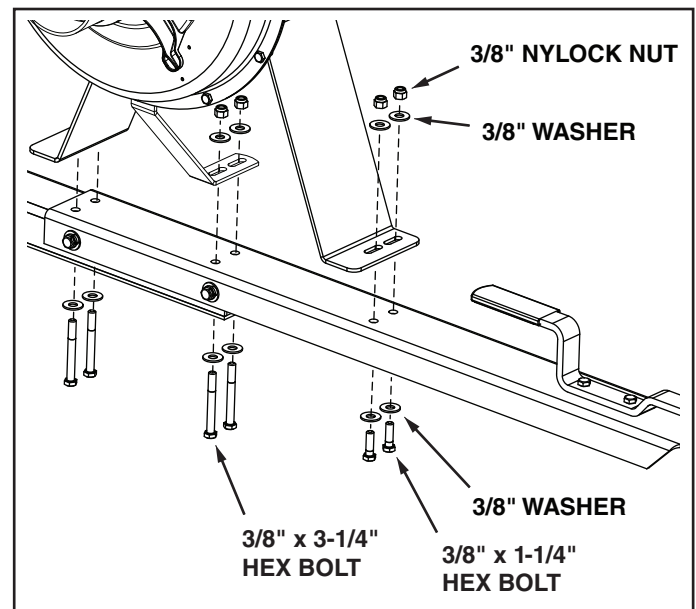

FIGURE 7
10. Attach the engine base assembly to the tongue using four 3/8" x 3-1/4" hex bolts, two 3/8" x 1-1/4" hex bolts, twelve 3/8" washers and six 3/8" nylock nuts. **Tighten.** See figure 7.